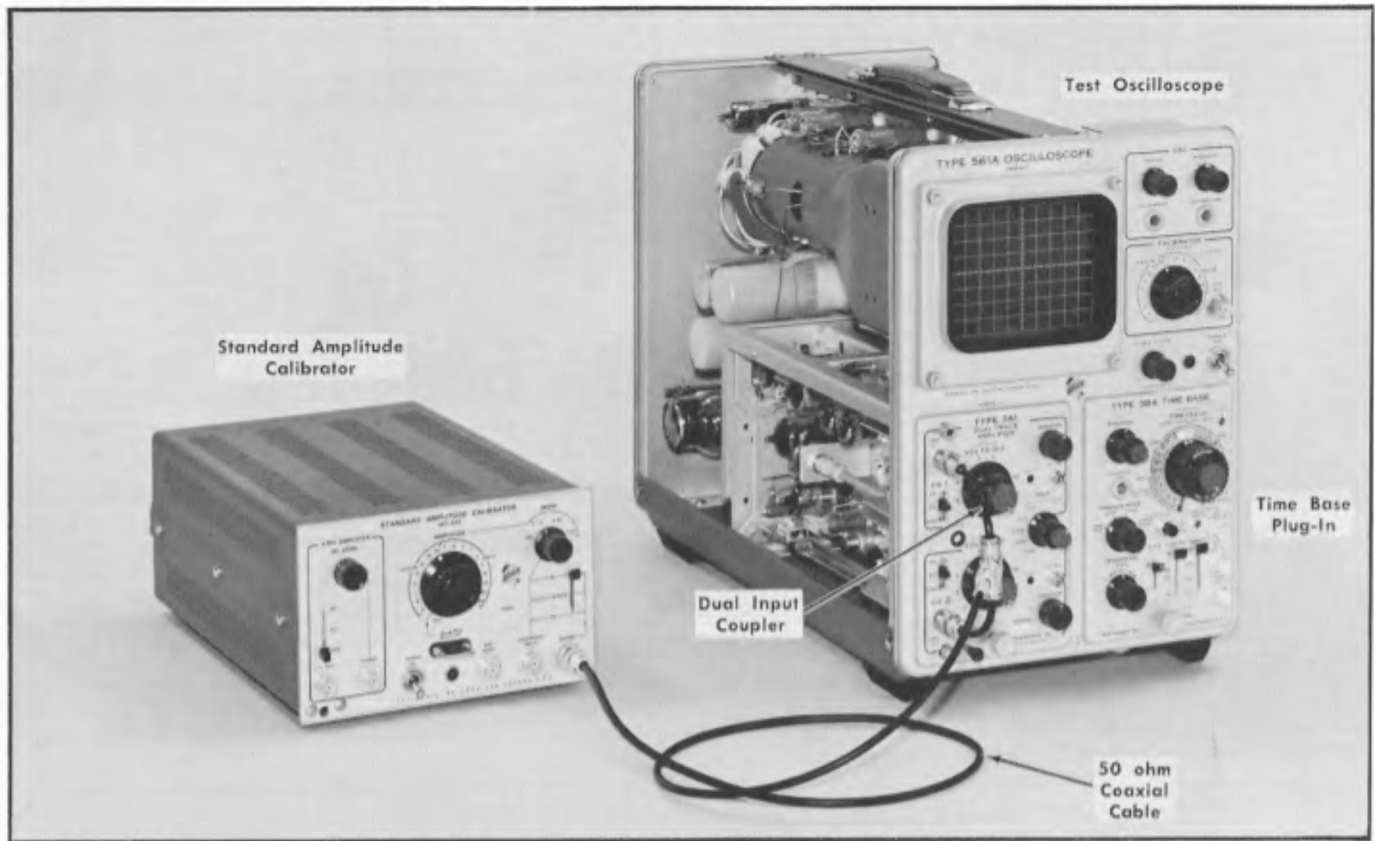

Fig. 7-10. Test equipment setup for steps 7 through 11.
- a. Test equipment setup is shown in Fig. 7-10.